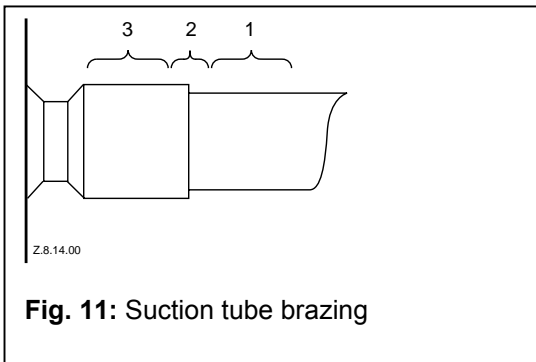

Fig. 11: Suction tube brazing
Compliant Scroll compressors have copper plated steel suction and discharge tubes. These tubes are far more robust and less prone to leaks than copper tubes used on other compressors. Due to the different thermal properties of steel and copper, brazing procedures may have to be changed from those commonly used. For brazing of the tubes see **Fig.11** and the following procedures.
- Recommended brazing-materials: Silfos with minimum 5% silver or silver braze used on other compressors. Due to the different thermal properties of steel and copper, brazing procedures may have to be changed from those commonly used. For brazing of the tubes see **Fig.11** and the following procedures.